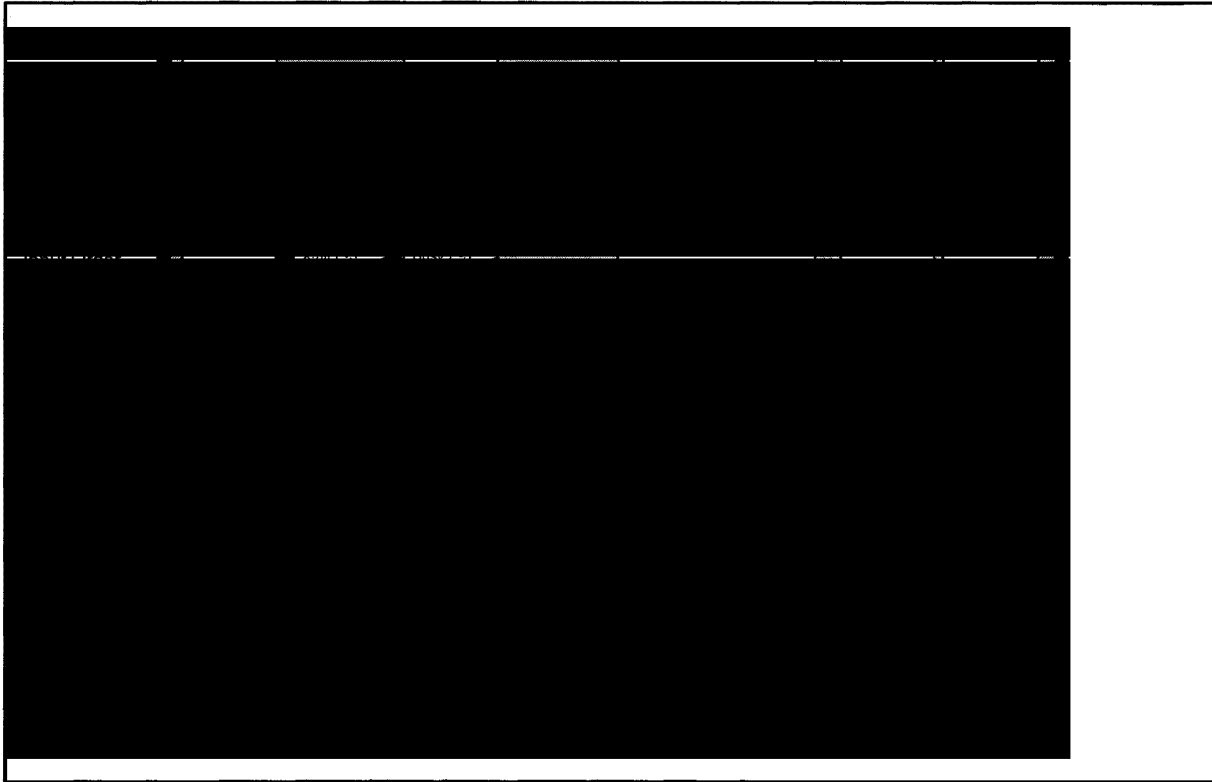

Figure 11. Input Order Page Window
Step 1. Choose the **Alphabetic** or **Input Order** menu key from the Page menu. A window similar to Figure 11 is displayed on the screen. The window contains a list of pre-programmed page ID's, scrolling keys, a **Send Page** command key, a **View Page** command key, and a **Close** command key.